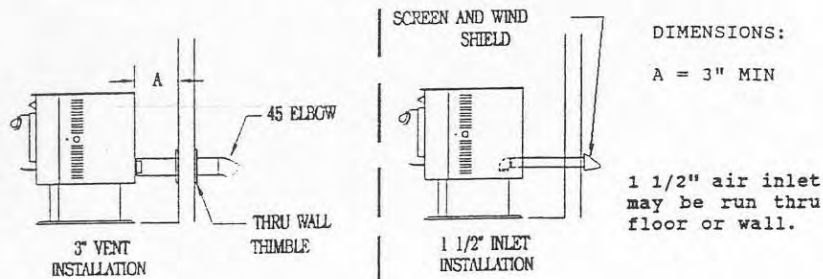

FIGURE 20-A
6. The NPS-1000 is designed to accept installations using a horizontal vent through an exterior wall. See Figure 20-A.
7. For an installation which follows a more traditional (as well as more efficient) style refer to fig. 20-B.